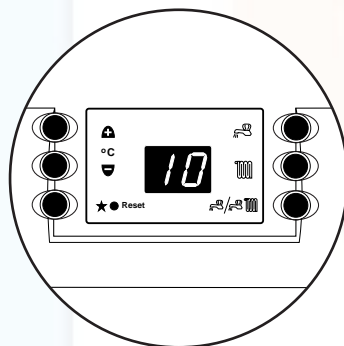

Fig. 36
b) Press the "-" Temperature Control Button so that the display shows "10" (Fig. 36) with the "0" indicating that the boiler is set for a maximum Central Heating output of 100,000 Btu/hr. 1 minute after the parameter has been set the display will revert to normal operation.